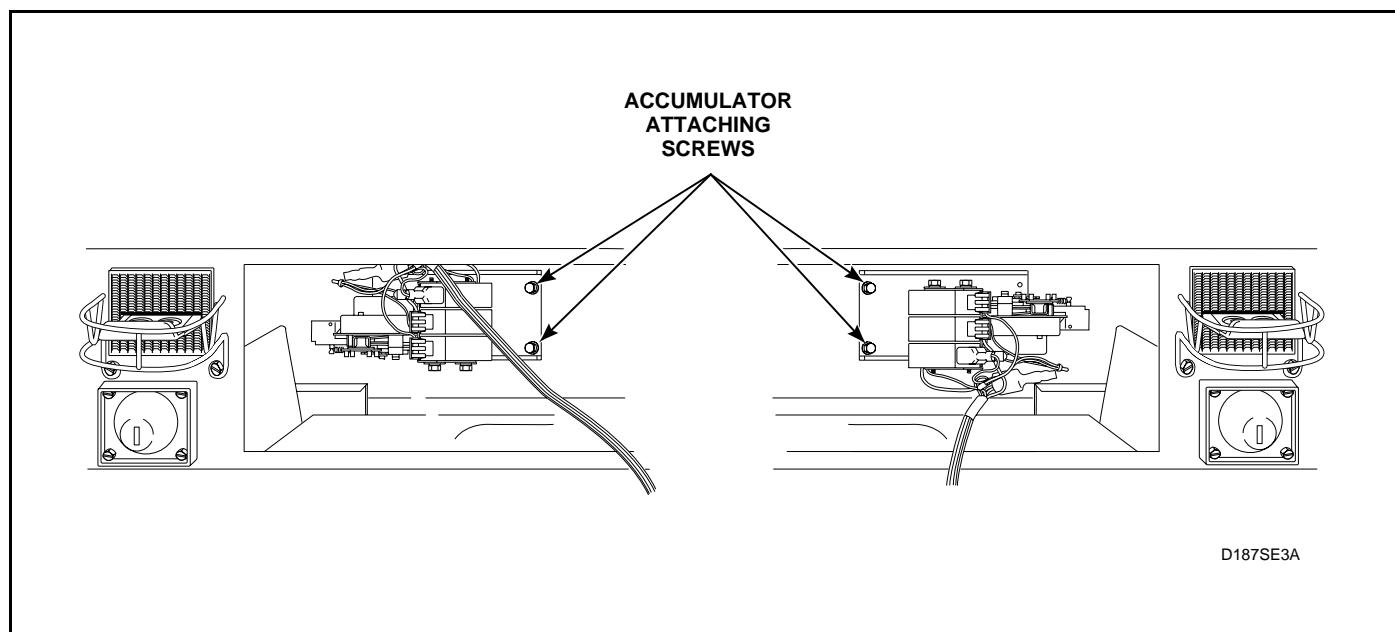

Figure 14
- f. Reach in through control panel opening and remove screws holding accumulator and mounting bracket to the control cabinet. See *Figure 14*.
- h. Remove two screws holding accumulator to mounting bracket. See *Figure 14*.